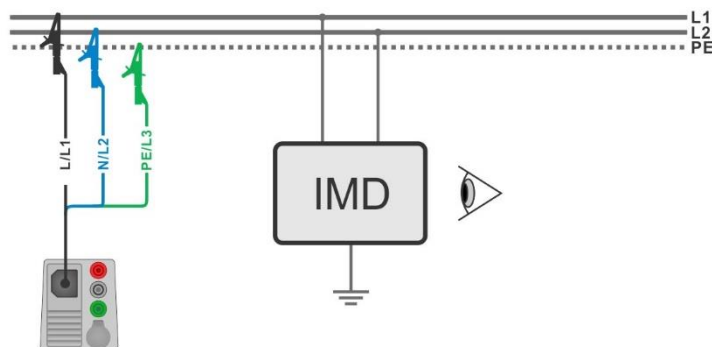

Figure 7.94: Connection with 3-wire test lead
- › Connect 3-wire test lead to the object under test, see **Figure 7.94**.